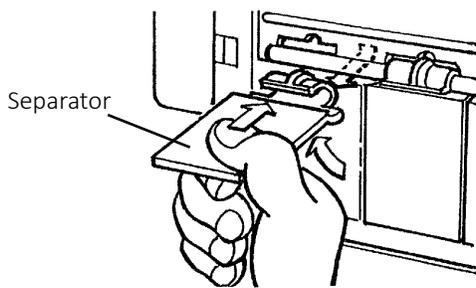

Fig. 29
3. Remove each separator by lifting it to the horizontal position and pushing it hard inward. See Fig. 29.